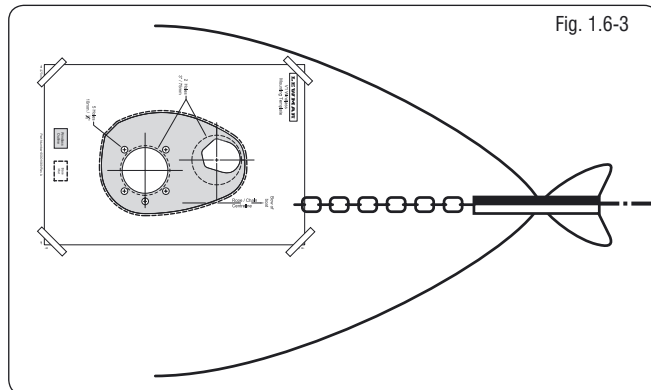

Fig. 1.6-3
- Place the windlass on the deck and decide upon a position for it with reference to the vessel's bow roller (Fig. 1.6-2) and the chain locker below. Rode lead from the roller should ideally be fed horizontally back to the top of the gypsy and along its centerline (Fig. 1.6-3).